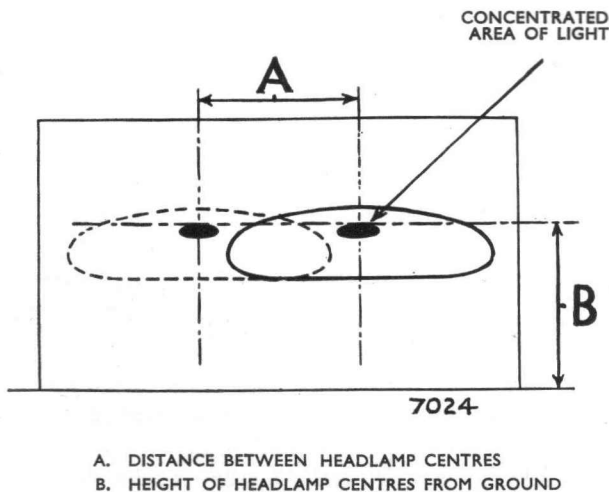

Fig. 25. Beam-setting diagram for main beams of two headlamp system
5. With the headlamp illuminated in the **main** beam condition, turn the adjusting screws in the appropriate direction until the setting shown in Fig. 25 is achieved.